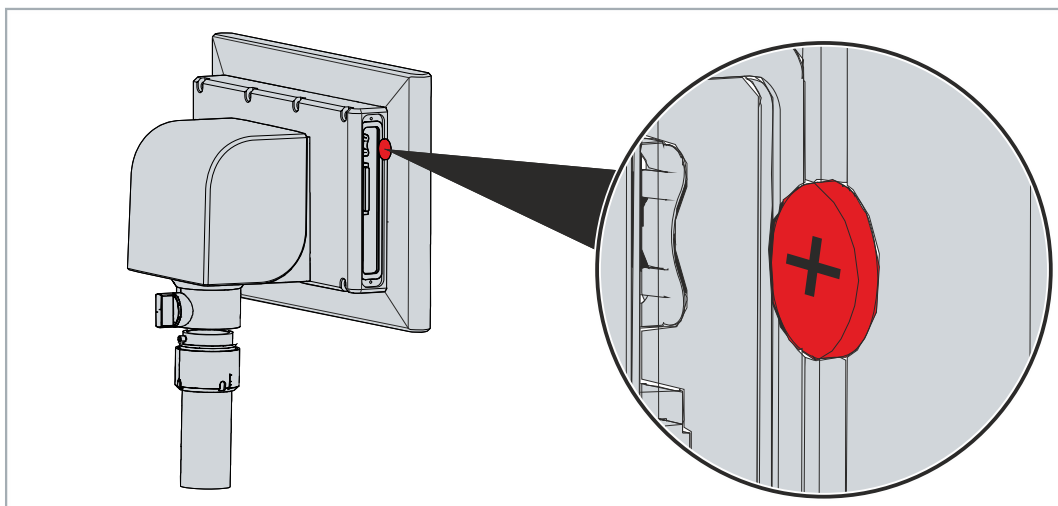

Fig. 46: Replacing the battery
2. Insert the new battery into the PC by hand. Make sure that the polarity is correct as shown (see Fig. 46).